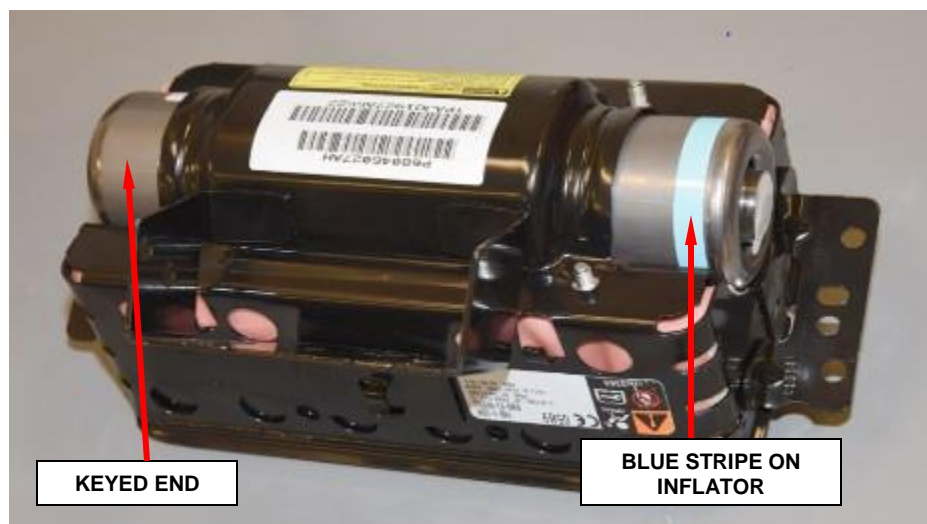

Figure 61 – Insert Inflator (Shown with Cushion Installed)
- k. Slide **new** inflator into housing. The keyed end is inserted first, therefore the blue stripe on the inflator will be located at the open end, as shown (Figure 61).